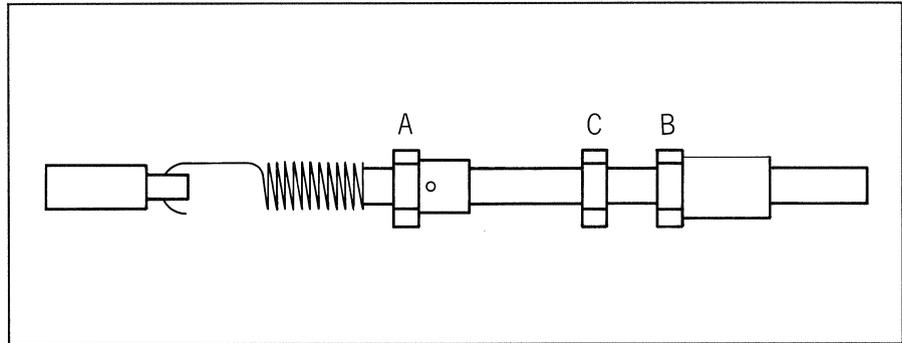

Fig. 22 Adjusting mechanism of the tape tension spring
- By turning the nut [A], adjust the spring length in such a way that $\Delta U = 2 \text{ V}$ is attained (see Fig. 22).